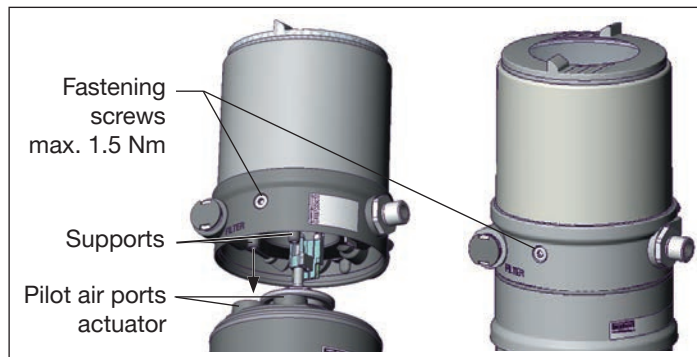

Fig. 21: Install control unit
2. the supports of the control unit can be inserted into the pilot air ports of the actuator (see also “Fig. 21”).